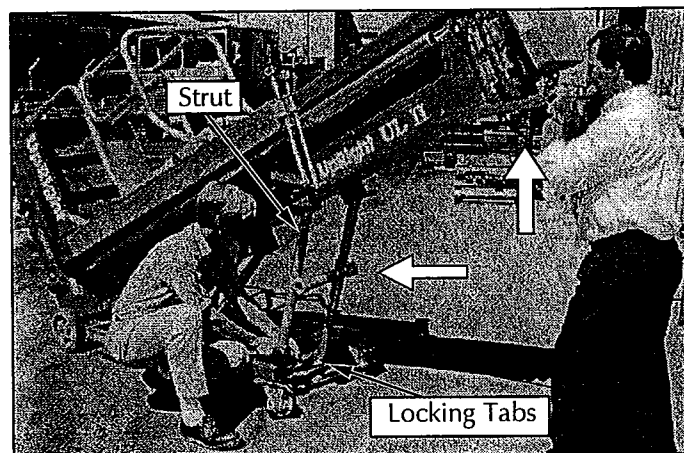

Figure 3-16: Securing the Strut
9. While another person lifts up slightly on the upper handle bars, align the free end of the strut with the locking tabs on the Tilt Back frame and lock the strut into place by pulling on the cable connecting the two locking pins (fig. 3-16). Check the strut to insure that both pins are securely locked in place.